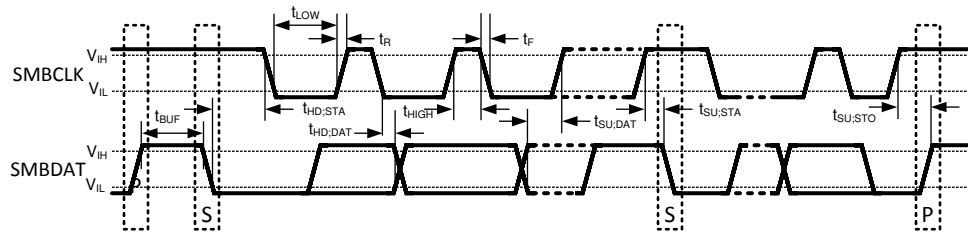

Figure 5-1. SMBus Communication
- (1) Absolute Maximum Ratings indicate limits beyond which damage to the device may occur. Operating Ratings indicate conditions for which the device is ensured to be functional, but do not ensure specific performance limits. For ensured specifications and test conditions, see the Electrical Characteristics. The ensured specifications apply only for the test condition listed. Some performance characteristics may degrade when the device is not operated under the listed test conditions. Operation of the device beyond the Maximum Operating Ratings is not recommended.
- (2) When the input voltage (V_I) at any pin exceeds the power supplies (V_I < GND or V_I > V_{DD}), the current at that pin should be limited to 5 mA. Parasitic components and or ESD protection circuitry are shown in Figure 5-1 and Table 5-1 for the LM95231's pins. Care should be taken not to forward bias the parasitic diode, D1, present on pins: D1+, D2+, D1–, D2–. Doing so by more than 50 mV may corrupt the temperature measurements.
- (3) Thermal resistance junction-to-ambient when attached to a printed circuit board with 1oz. foil and no airflow: